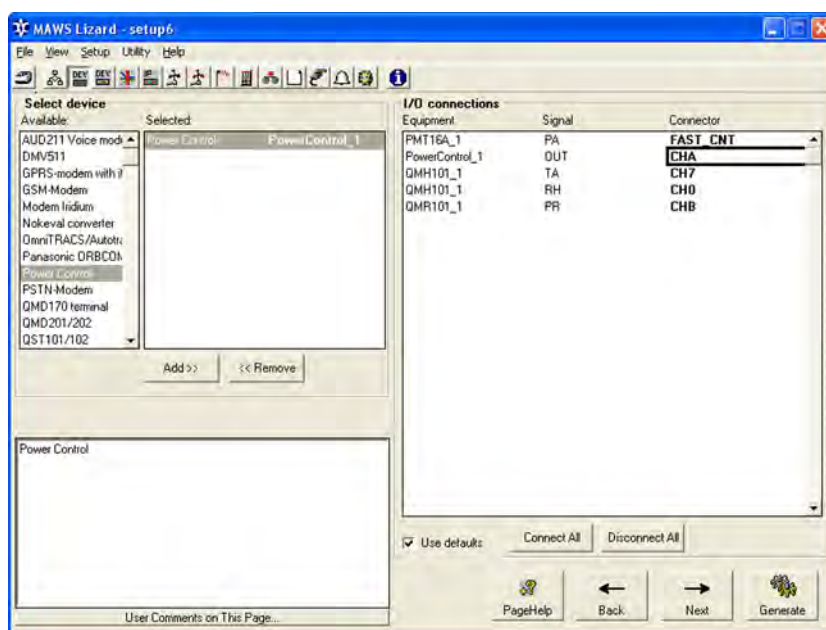

Figure 101 Devices View: Connecting Power Control
3. Select the output to be controlled from the **Connector** list as shown in Figure 101 on page 200.